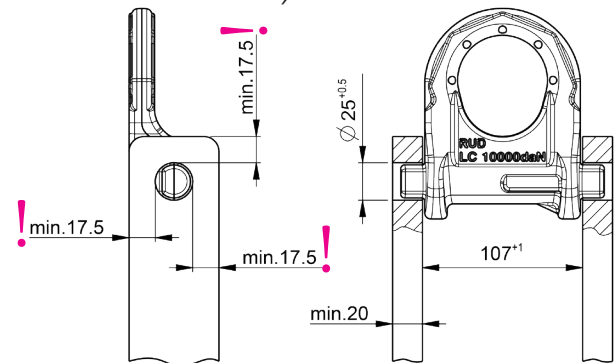

Fig. 6: Minimum cross-sections for installation (bore hole)
- Note the minimum cross-sections of the connection plates (cf. Fig. 6).